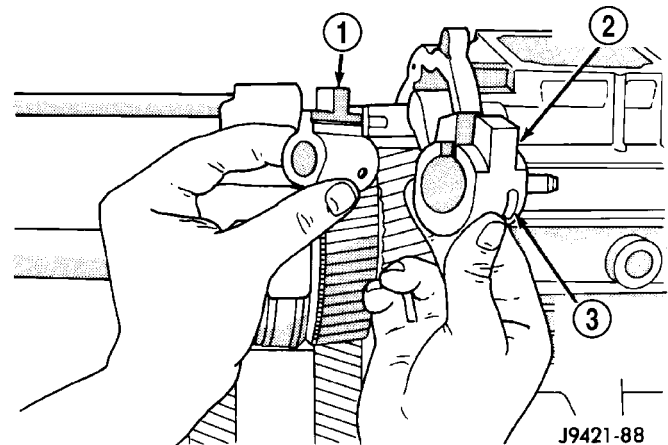

Fig. 105 LEVER AND BUSHING
(2) Slide the end of shift shaft with shaft detent notches through 3-4 shift fork.
(3) Assemble shift shaft shift lever and bushing (Fig. 105). The slot in bushing must face up and roll pin hole for lever must be aligned with hole in shaft.